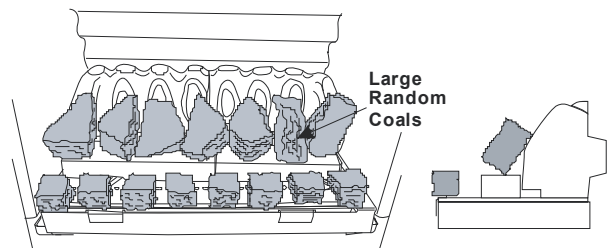

Figure 21
4. Unpack the square coals and insert them centrally into the spikes as shown in **Figure 21**. Then place Large Random coals on the middle matrix such that they are bridging across to the rear matrix.